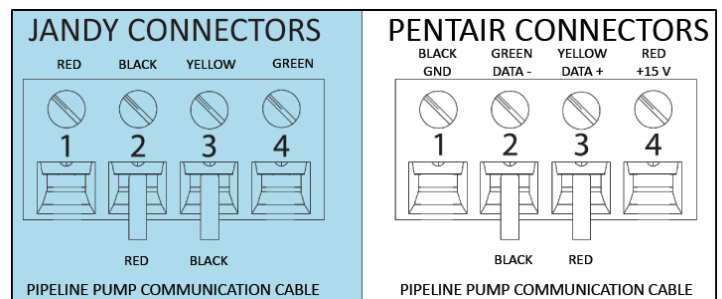

FIGURE 6
- Connect the Black and Red wires from this cable to an unoccupied Communication port in the load center per the wiring diagram shown in Figure 6.
For connecting to a Hayward® Omni Automation Controller, you will need to use the OmniHub® Converter Board. Follow the Hayward instructions for connecting to a Pentair® Intelliflo® VS pump. Attach your pump communication cable to the OmniHub® Converter Board and wire communication port per the Jandy® diagram in Figure 6.